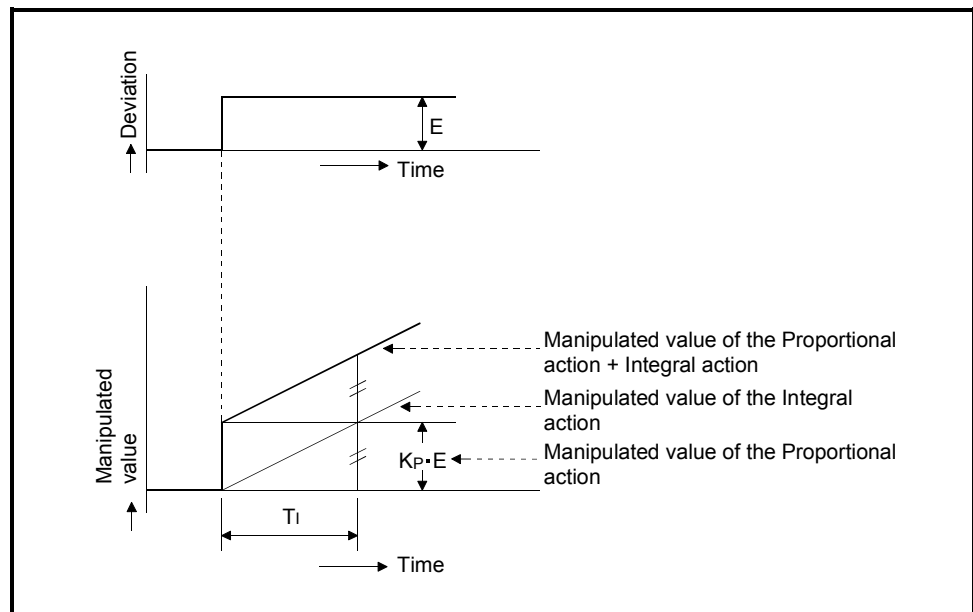

Fig. 1.8 Integral action for step response
- (2) In the integral action, the time from the deviation occurrence until the manipulation value of the integral action becomes that of the proportional control action is called the integral time, and is indicated by T_I .
- (3) The integral action for the step response when the error value is constant is shown in Figure 1.8.
- (4) The integral action is used as a PI action in combination with the proportional action, or PID action in combination with the proportional and derivative actions.